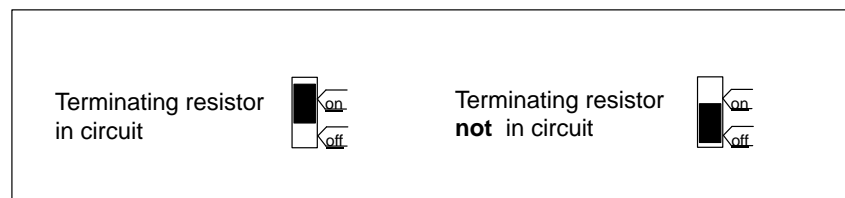

Figure 3-16 Bus connector (6ES7 972-0B.11-...): positions of switch for terminating resistor in circuit or not in circuit
3. If the bus connector is at the start or end of a segment, you must activate the terminating resistor (set switch to "ON") (see Fig. 3-16).